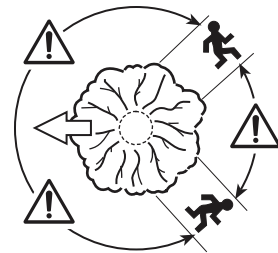

Fig. 35
3. An escape path should be planned and cleared as necessary before cuts are started. The escape path should extend back and diagonally to the rear of the expected line of fall (Fig. 35).